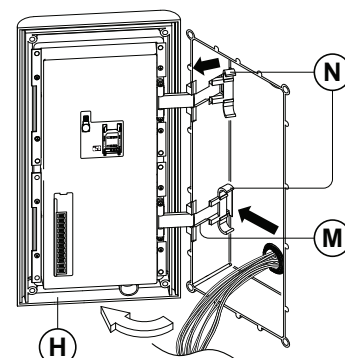

Fig. 67
8. Next open the module support frame (H) (to allow for easy access to the hinge mounts (M)) and clip the hinge locks (N) to the hinge mounts (M), following the guide arrows, as shown in **Fig.67**;